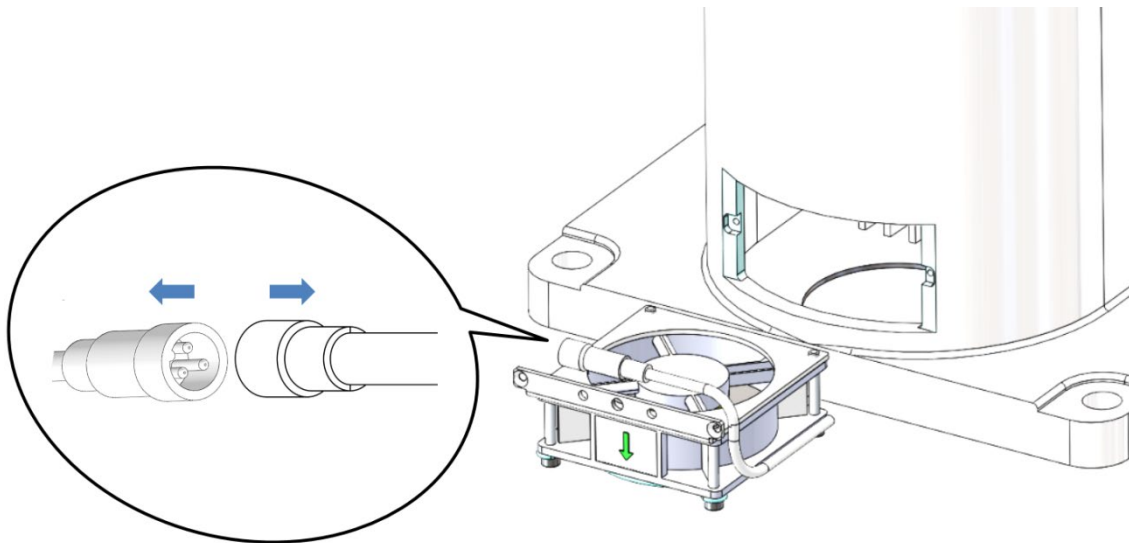

Figure 5-5 Take out the fan assembly
Step 4 Slightly lift the fan assembly and then pull it out, remove the connecting cable; then take out the fan assembly to be replaced, as shown in Figure 5-5.